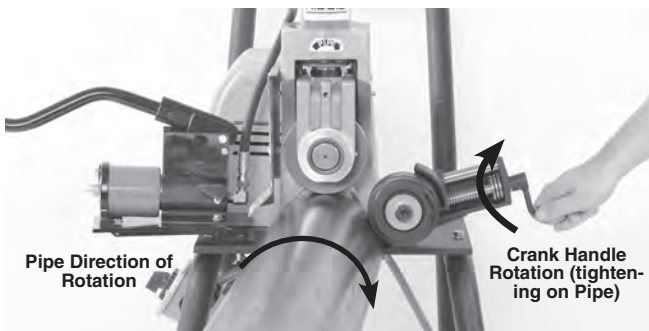

Figure 14 – Offsetting the Pipe ½°, (Exaggerated)
3. Rotate the stabilizer crank handle to bring the roller in contact with the pipe. Rotate the crank handle an additional one (1) turn to preload the roller against the pipe (*Figure 14*). Do not reach across the pipe to adjust the stabilizer.